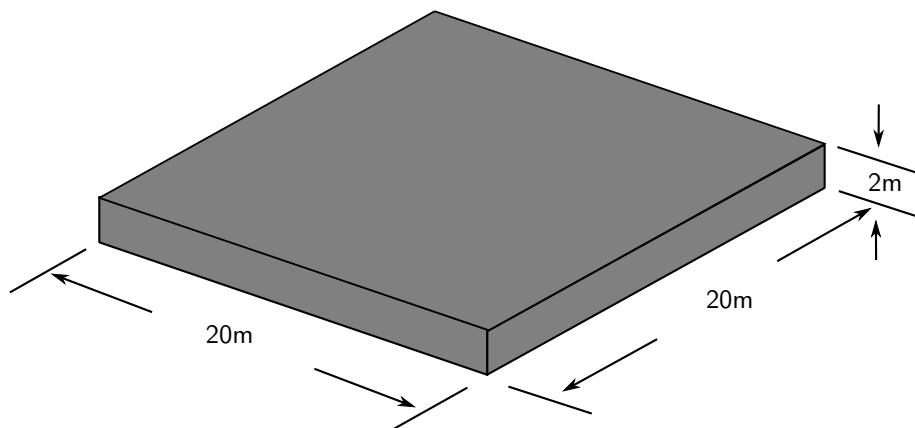

Figure 4: Vessel hull dimensions.
- ☞ A simple vessel consisting of a square box, seen in Figure 4, is used for this project.